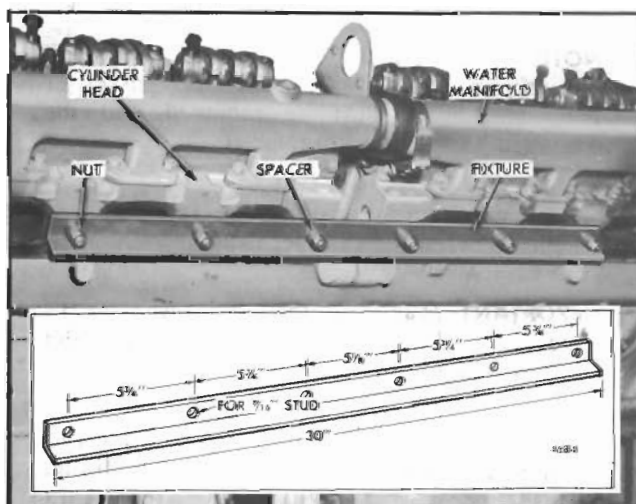

Fig. 10 - Cylinder Head Alignment Fixture for 16V Engine
**NOTE:** To prevent misalignment of the cylinder heads on 16V engines, use an alignment fixture as shown in Fig. 10. Install the cylinder heads